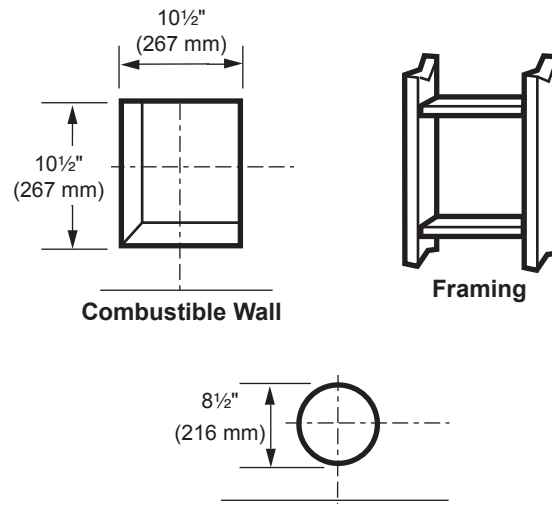

Figure 25 - Exterior Wall Framing Dimensions
- Combustible Exterior Walls:** Cut a 10½"H x 10½" W (267 x 267 mm) square hole through the exterior wall frame. *Figure 25*
2. The center of the hole should align with the center line of the horizontal rigid vent pipe end. Allow 1/4" minimum rise per foot. *Figure 25*